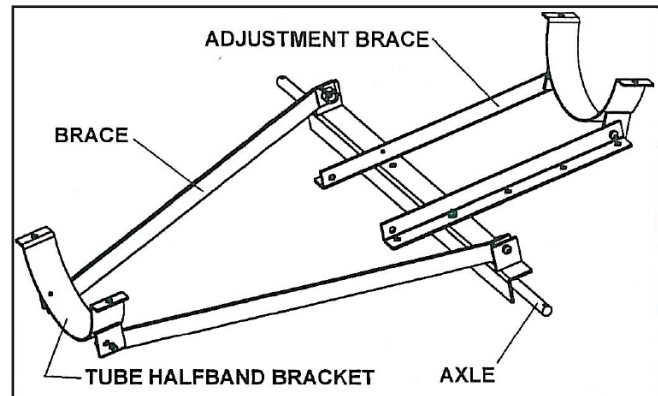

Figure 1
1. Attach the two braces to inside of each lug on the axle using two 7/16" x 1-1/4" bolts, washers, and locknuts (see Figure 1).
3. Mount tube halfband bracket to adjustment braces as shown (see Figure 1) with two 7/16" x 1-1/4" bolts, washers, and locknuts.